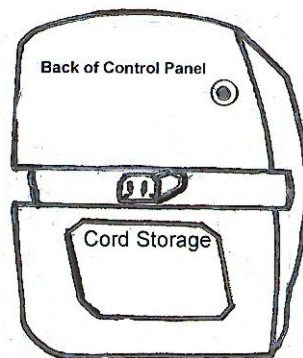

Fig. 5
- Disconnect the Safety Detachable Power Cord from the deep fryer & store inside the power cord storage (#19) cavity at the rear of the control panel. Fig. 5